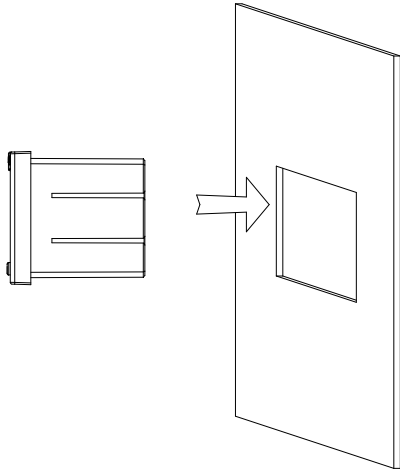

Figure 7
- 3) The instrument is mounted from the Front to the mounting hole, as shown in figure 7